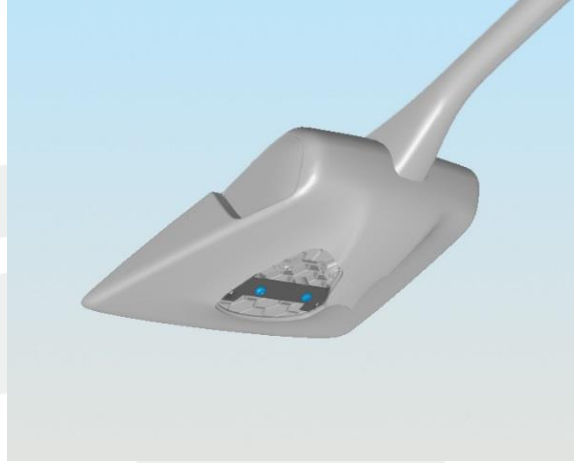

Figure 1
2. Remove the screws that attach the upper mirror cover to the triple camera windshield bracket (torque 0.8 Nm) (Figure 1).
17. Install the screws that attach the upper mirror cover to the triple camera windshield bracket (torque 0.8 Nm) (Figure 1).